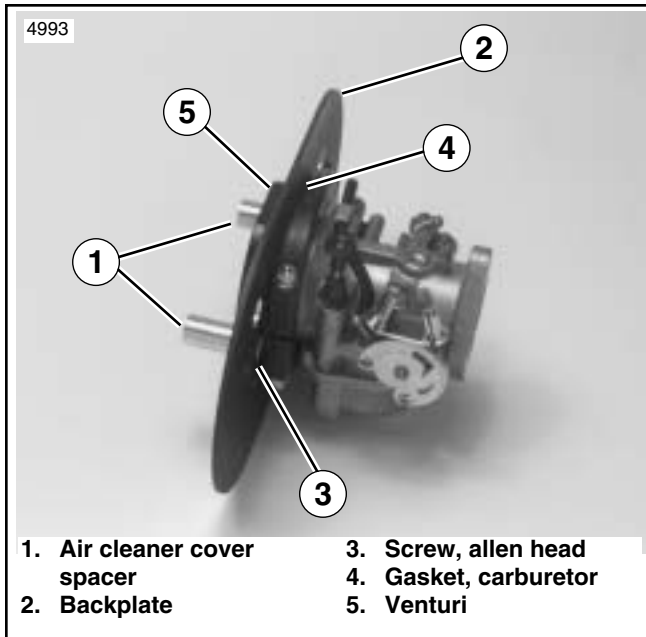

Figure 6. Air Cleaner Cover Spacers and Backplate
8. See Figure 6. Install the air cleaner cover spacers (1) on the backplate (2) using the counter-sunk allen head screws (3). The screw heads fit into the counter sunk screw holes in the backplate (2). Both ends of the spacers have counter sinks; one end is tapered and the other end is bored. The screws (3) go in the bored end.
9. On 1990 and earlier models, drill a 3/8 in. hole in the backplate (2), approximately 2 in. from the rear and bottom edge of the backplate. Install the crankcase breather hose fitting and O-ring in the hole. Place hose clamp on breather hose.
10. See Figure 6. Assemble carburetor gasket (4), backplate (2) and venturi (5) to the air cleaner adapter, using the button head screws (not visible in photo). Use Loctite 271 (red) and tighten the air cleaner adapter bolts and nuts.